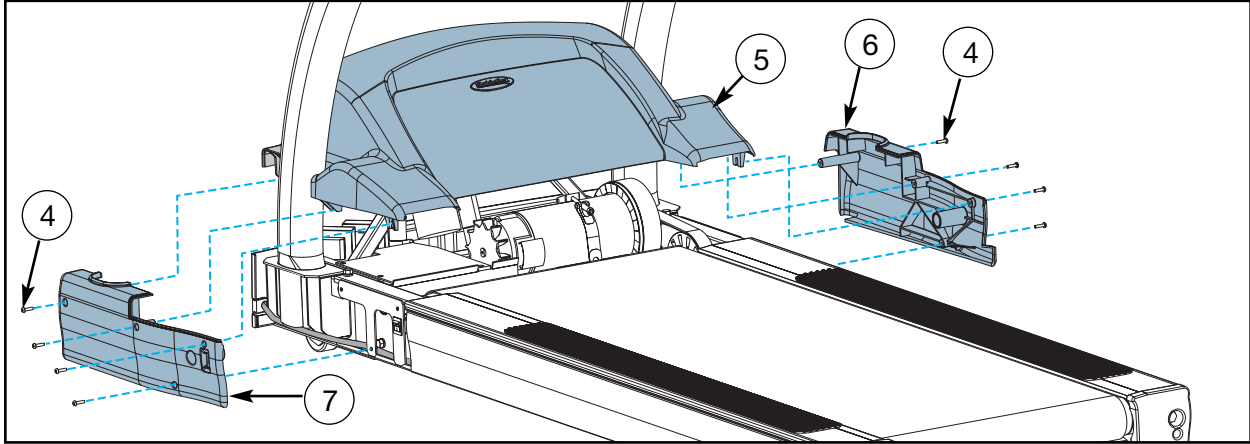

Figure 13
- A.** Using a Phillips head screwdriver, partially tighten each motor cover side (left and right) with four 10-32 x .75 Phillips head screws. See Figure 13.
- B.** Place the motor cover center into position. See Figure 13.